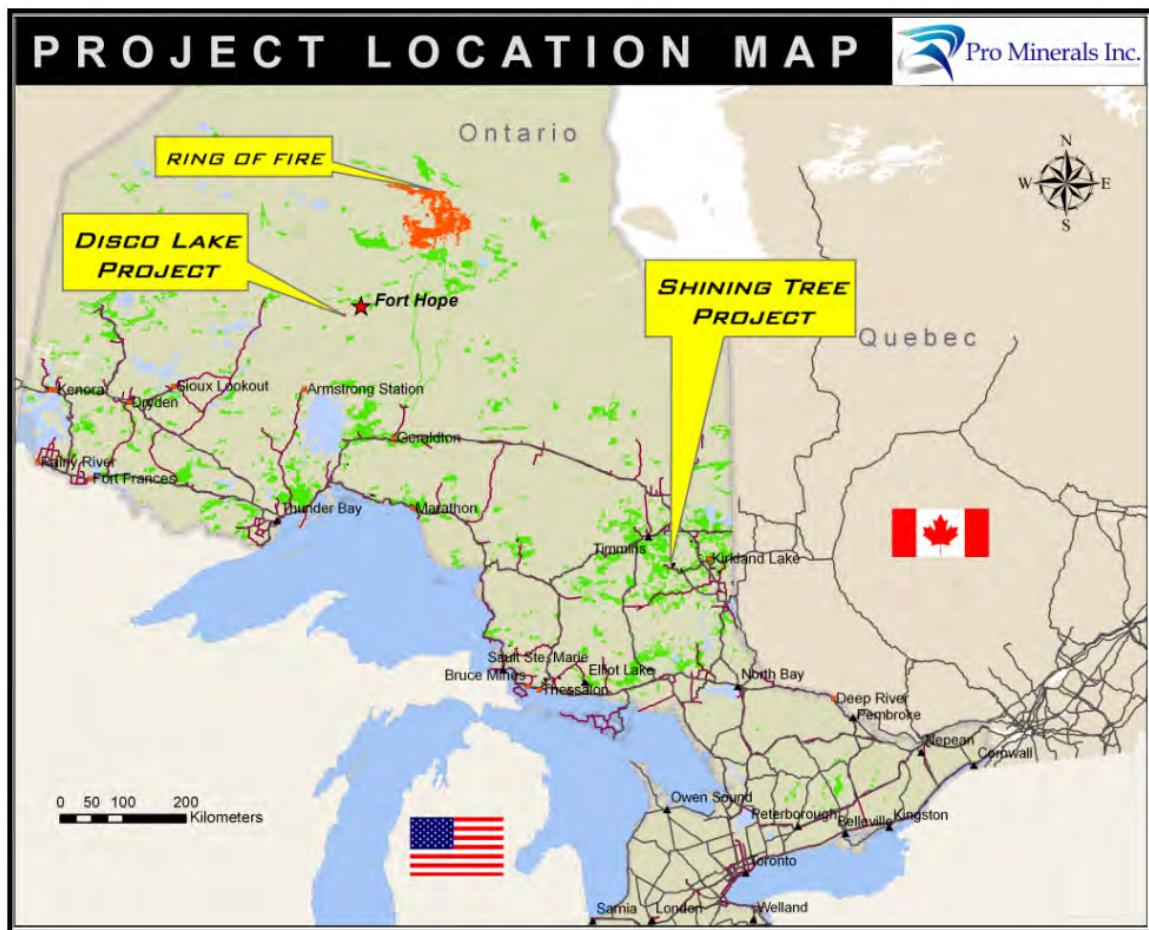

Figure: 2: Project Location & Access Map
- FIGURE 2: PROJECT LOCATION & ACCESS MAP